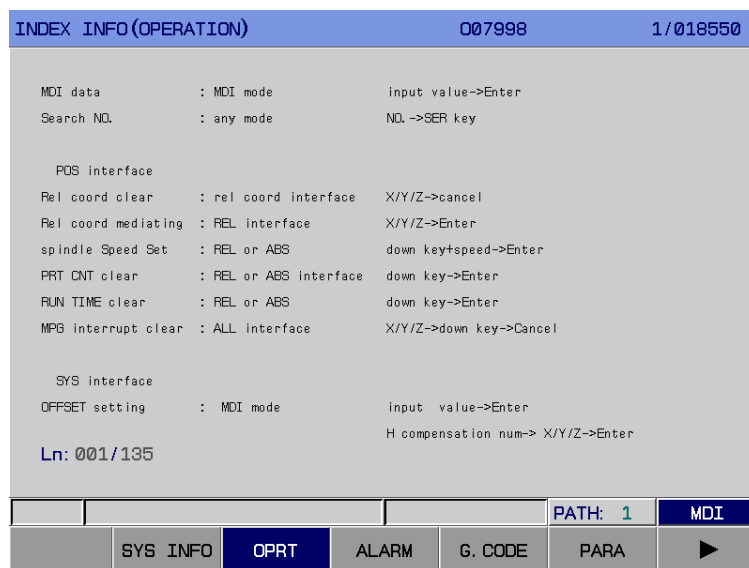

Fig. 3-9-2
2. Operation table interface Enter the help information (Operation list) page by **【OPERATION TABLE】** softkey in <HELP> interface; refer to the Fig. 3-9-2: